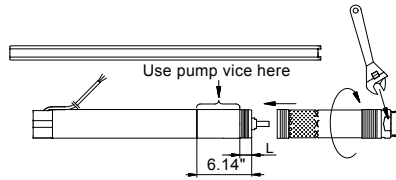

Fig. 11 Pump in vice
- Place the motor horizontally in a vice and tighten it, see fig. 11.
A spanner may be used on the clamping faces of the pump end, see fig. 11.